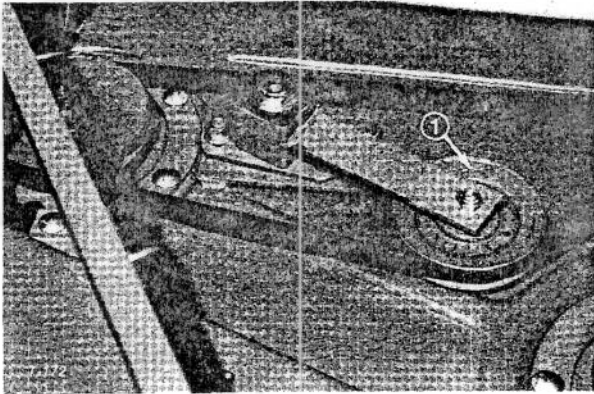

Figure 109
3. Loosen two nuts securing idler plate so tension of the idler pulley against the belt is released (Fig. 109).